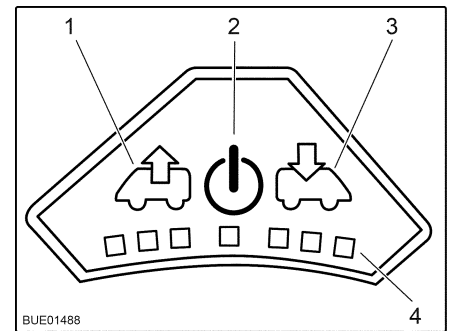

Fig. 86 Control panel for fan
- Switching on:* ■ Press the On/Off button (Fig. 86,2). The fan runs in comfort mode (venting at slowest fan speed).
- Venting:* ■ To increase the fan speed: Press the Vent button (Fig. 86,1). The fan speed in the venting direction increases by one level. LEDs (Fig. 86,4) show the operating levels.
■ To lower the fan speed: Press the Aerate button (Fig. 86,3). The fan speed decreases by one level.
- To increase the fan speed: Press the Aerate button (Fig. 86,3). The fan speed in the aerating direction increases by one step. LEDs (Fig. 86,4) show the operating levels.
- To lower the fan speed: Press the Vent button (Fig. 86,1). The fan speed decreases by one level.
- Press the On/Off button (Fig. 86,2). The fan stops, the LEDs go out.